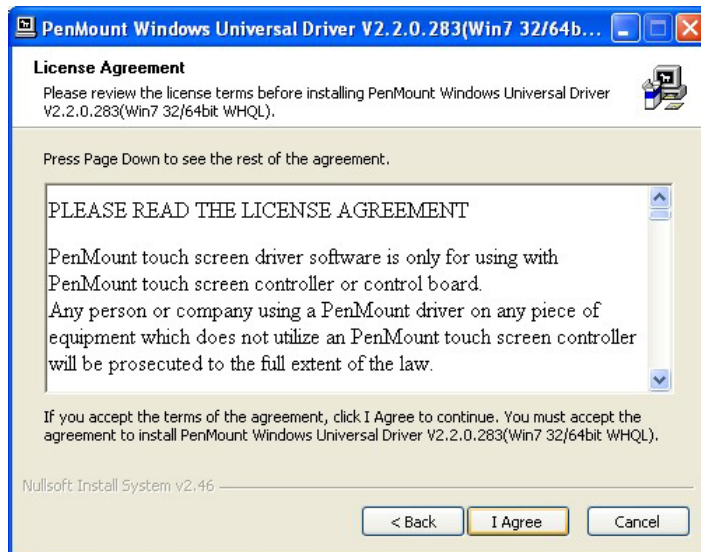

Figure 6-3: License Agreement
Step 7: The license agreement in **Figure 6-3** appears. Accept the terms of the agreement by clicking **I Agree**.